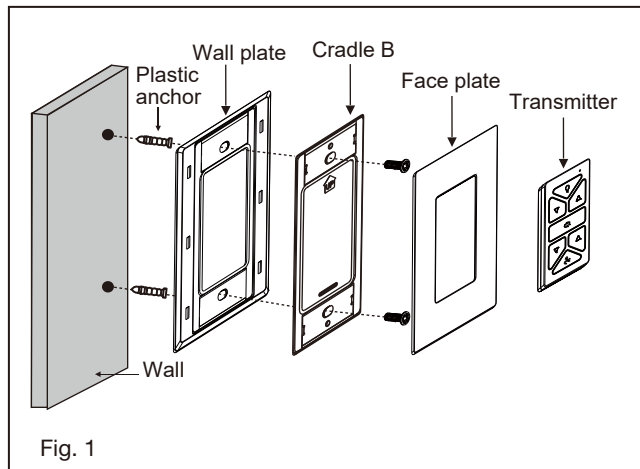

Fig. 1
- 1 Remove ball from downrod by loosening set screw in the side of the ball. Slide ball down and remove cross pin; remove ball. (Fig. 1)
1. Insert the receiver into the ceiling mounting bracket with the flat side of the receiver facing the ceiling. (Fig. 1) For best performance, make sure the Black Antenna and WIFI Antenna, on the end of the receiver, remains extended and not tangled with any of the electrical wires.
- 1 Fasten blade to motor with provided blade screws and fiber washers. Repeat procedure for remaining blades. Make sure screws are **TIGHT!** Loose motor screws can contribute to unnecessary hum during operation. (Fig. 1)
- 1 While holding the LED assembly under your fan, make the polarized plug connections: (Fig. 1)
- 5 While holding the Lamp shade under your fan. (Fig. 1)
- 6 Raise the Lamp shade against the fan and turn clockwise until snug, DO NOT OVERTIGHTEN. (Fig. 1)
- 1 Select a desired location. Use the wall plate to mark the location of the mounting holes. Plastic wall anchors or mounting screws are needed for this application. (Fig. 1)
Remove the panel from the transmitter and then install one 2032 battery (included). You need to use a screwdriver to open or close the battery cover. To prevent damage to transmitter, remove the battery if not use for long periods of time (Fig. 1)